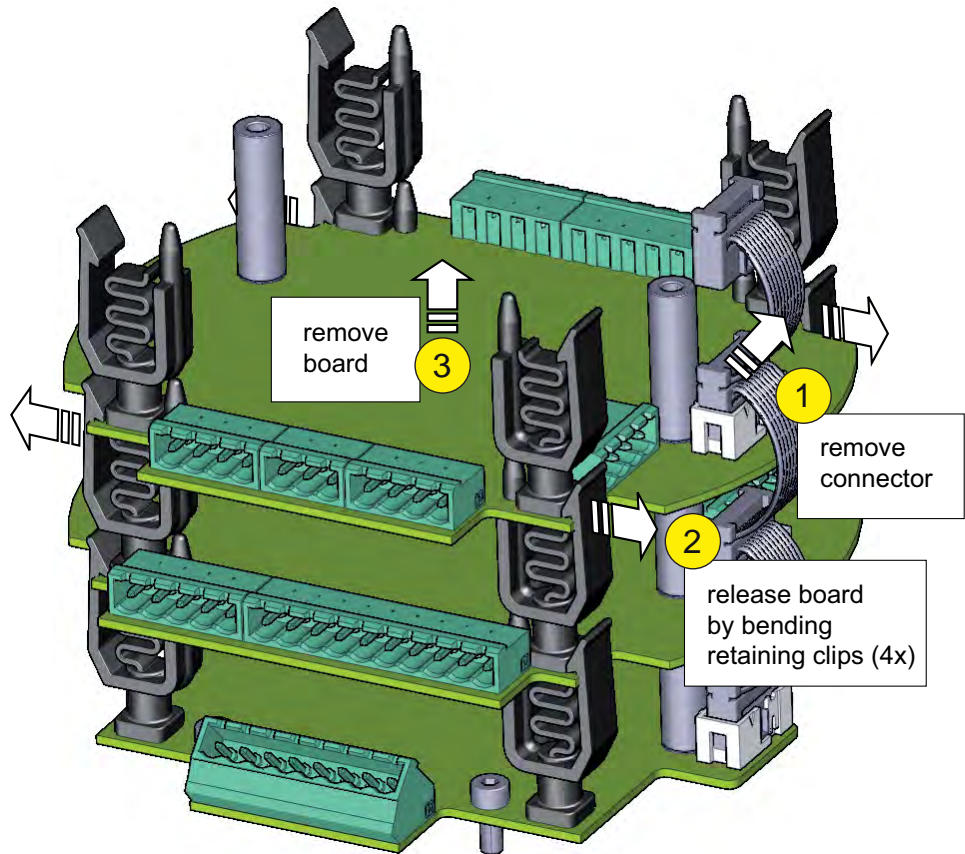

FIGURE 4-7
2. Remove the other PCBs (except CAN-PSF-SSC) one after another according to FIGURE 4-7.